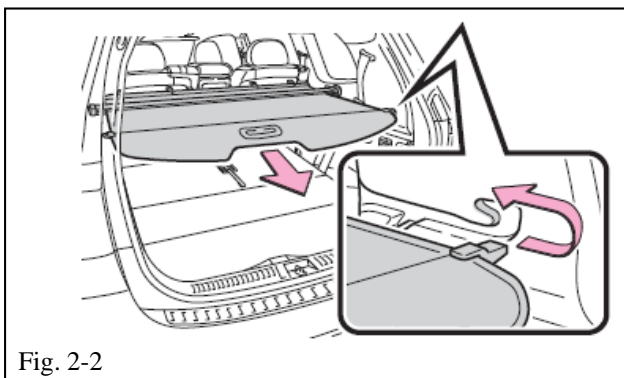

Fig. 2-2
-  (c) Pull out the cargo cover and engage both ends in hook area to secure it (Fig. 2-2).